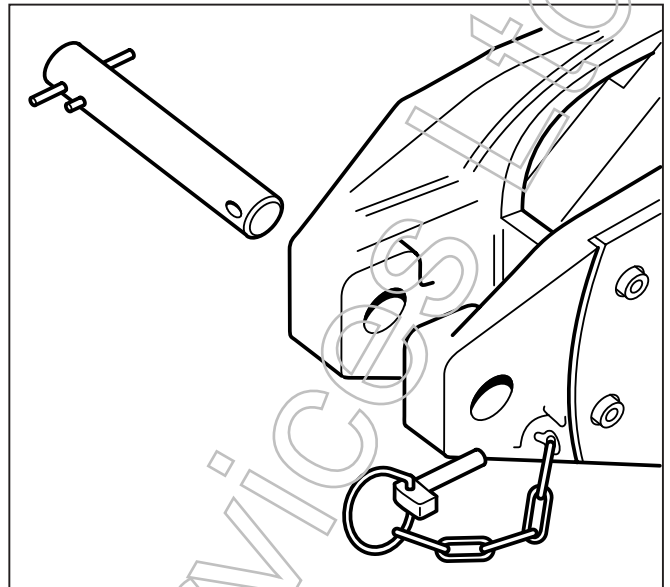

Fig. 18 - Anchor pin removed
3. Slide the anchor pin out of the side cases (Fig. 18).